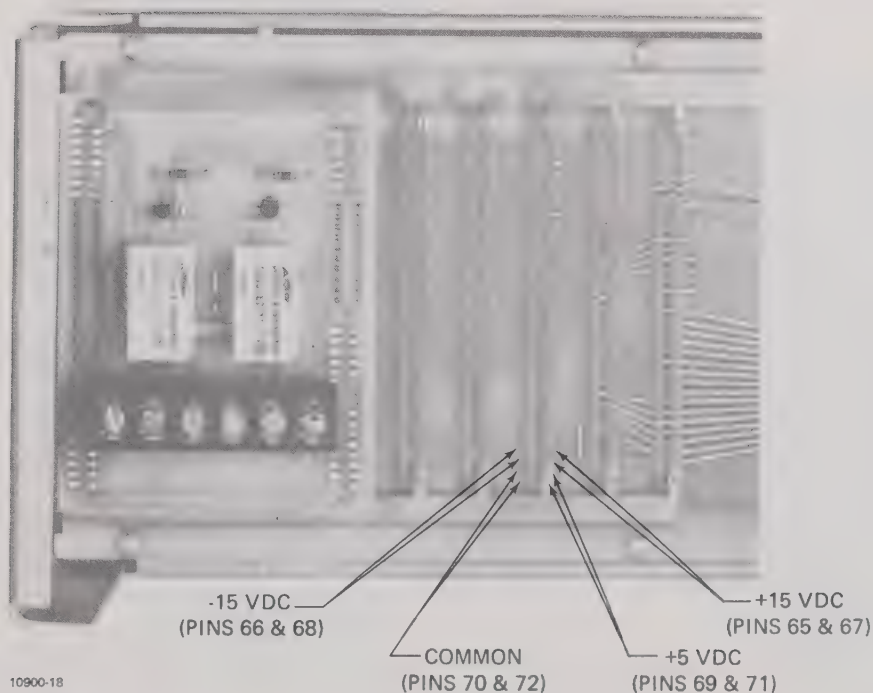

Figure 5.1 - Power Supply Voltages
1. Remove rear cover and verify that the power supply voltages are as shown in Figure 5-1.